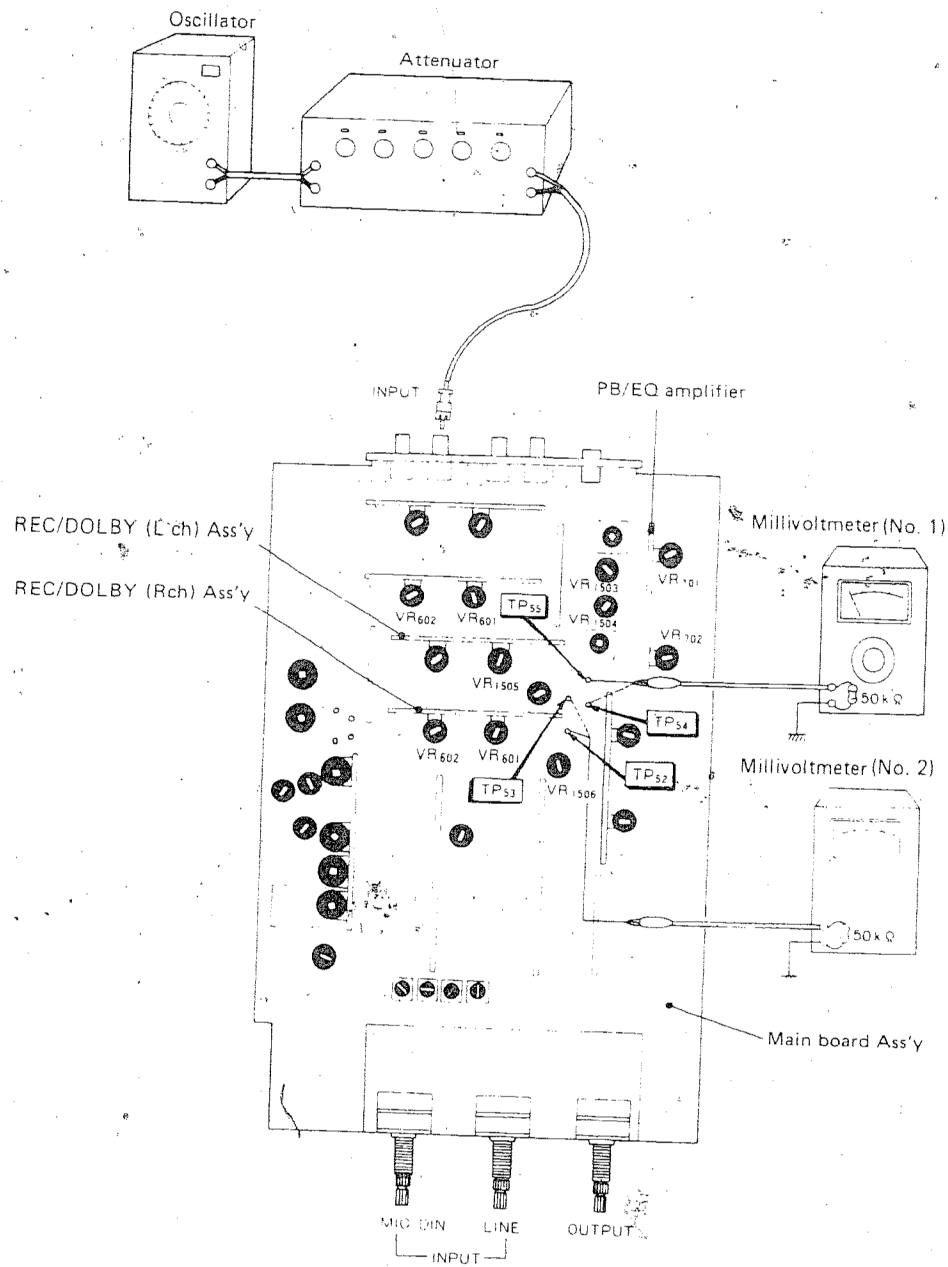

Fig. 26
1. Connect a millivoltmeter to T.P. terminal No.54 (L. ch) of the main board, and another millivoltmeter to T.P. No.55 (R. ch). Also connect both millivoltmeters to ground as shown in Fig. 26.
1. Leave the millivoltmeter connected to the same T.P. terminals and ground as for the head azimuth adjustment above (and as shown in Fig. 26).
1. Leave the meters connected to the same T.P. terminals and ground as for the head azimuth adjustments above (and as shown in Fig. 26).
2. Next connect a pair of meters to T.P. terminals No.53 (L. ch) and No.52 (R. ch) on the main board, and another pair of meters to the T.P. terminals No.54 (L. ch) and No.55 (R. ch), connecting all the meters to ground. (see Fig. 26).
1. Connect meters to T P terminals No.52 (R. ch) and No.53 (L. ch) on the main board (Fig. 26).